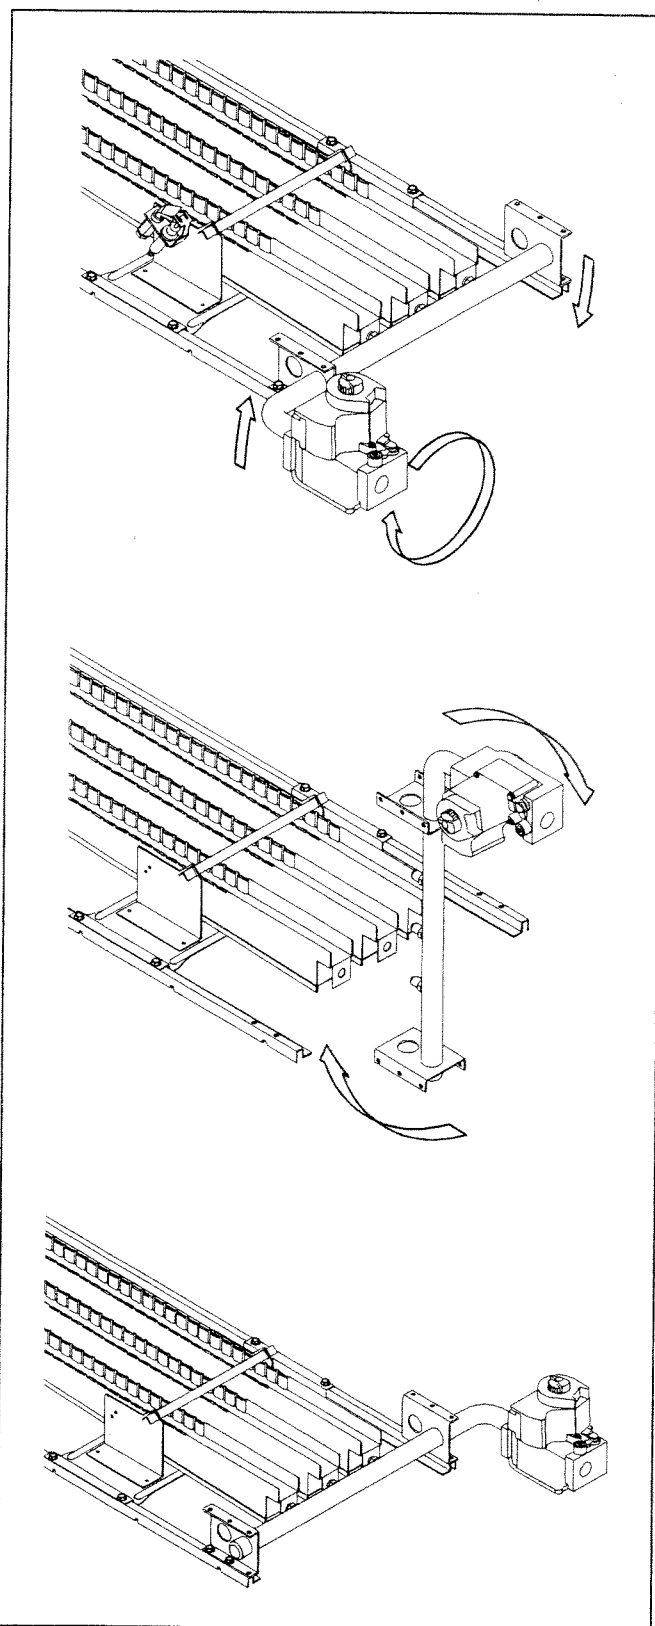

Figure 15. Reversing Gas Controls.
wrench on manifold to keep it from twisting when rotating gas control. See Figure 15.
6. Install manifold with gas control on opposite side of burner rack. Make sure brown gas control knob is up. Install manifold mounting bracket screws to torque of 60 inch-pounds. See Figure 15.